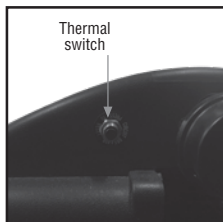

Fig. 5
- The compressor has a thermal switch (See figure 5) that prevents the motor from overheating. The motor shuts off when the switch is activated. To re-establish the motor follow the following steps: